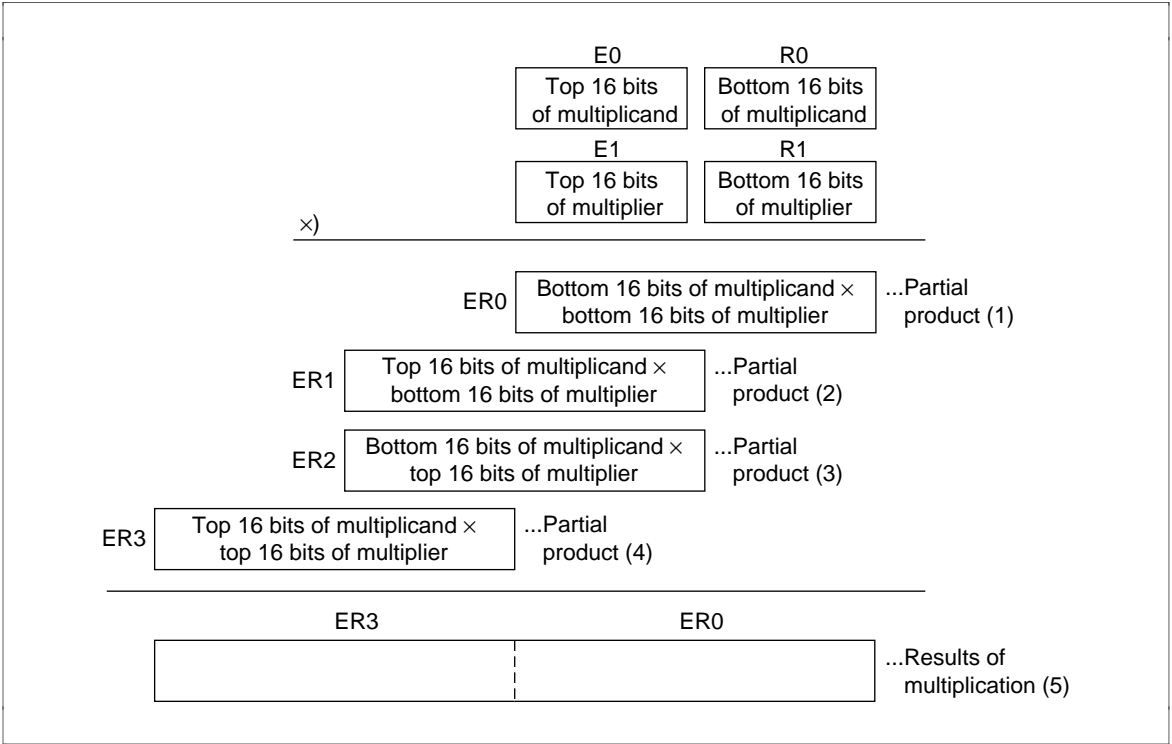

Figure 4.48 Multiplication
- The product is found by taking the partial products ((1), (2), (3) and (4) in figure 4.48) and then accumulating the results of multiplication (figure 4.48 (5)). The partial products are found by using the signed multiplication instruction (MULXU.W) on two 16-bit binary numbers.